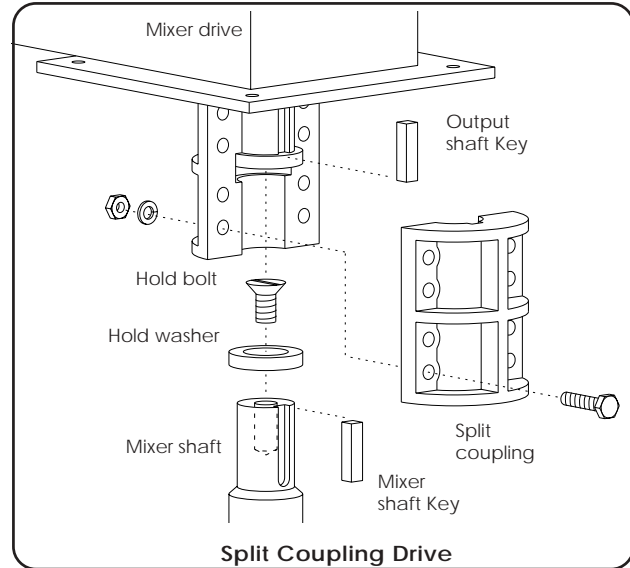

FIGURE B3.2
**B3.3 Split coupling drive:** Remove split coupling from drive shaft. Raise mixer shaft from below and through seal (if present). Bolt hold washer to top of mixer shaft. Install keys on both shafts. Do not hammer parts in place. If keys do not fit, grind to size. Make sure all parts are clean, and assemble split coupling halves onto shafts (see Figure B3.2). The split coupling has one end marked "drive" on each half. These ends must face the gearbox for proper alignment. Make sure gap is even on both sides of coupling. Tighten split coupling bolts to the torque ratings listed in Table B8.1. Tighten from the center out, in an opposite/diagonal sequence.